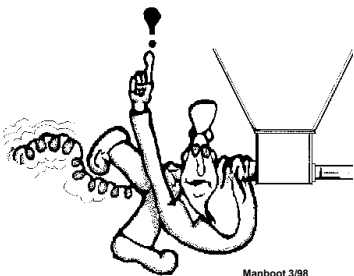

**Figure 32. Installing the Feeder Boot**
2. Install the Feeder Boot by sliding the straight end of the Feeder Boot into the belled end of the Feeder Tube. Install a clamp/anti-roost bracket on the bell and tighten. The Feeder Boot must be level with the open top of the Feeder Boot flat. (See **Figure 32.**)